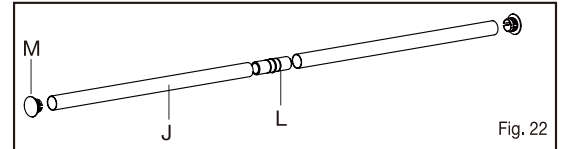

Fig. 22
- Measure length of closet rod assembly needed based on your closet layout. If your layout requires multiple closet rods to be joined, install closet rod joiner (L) to make a longer assembly (see Fig. 22).
- If joiner is needed for your layout, insert closet rod joiner (L) into one end of one closet rod (J) and then insert the exposed end of the joiner into the end of second closet rod (J). Repeat this step for longer assemblies where needed (see Fig. 22).
- Push end caps (M) into finished ends of closet rod (J) (see Fig. 22).